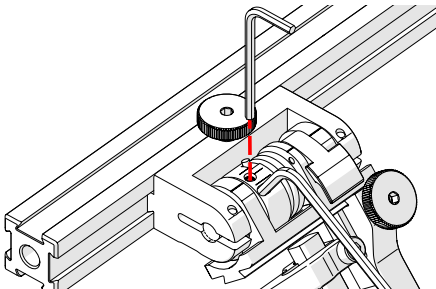

Fig. 127 - Insert hex tools
4. Place the 2 mm hex wrench into the force adjustment screw (Fig. 127).